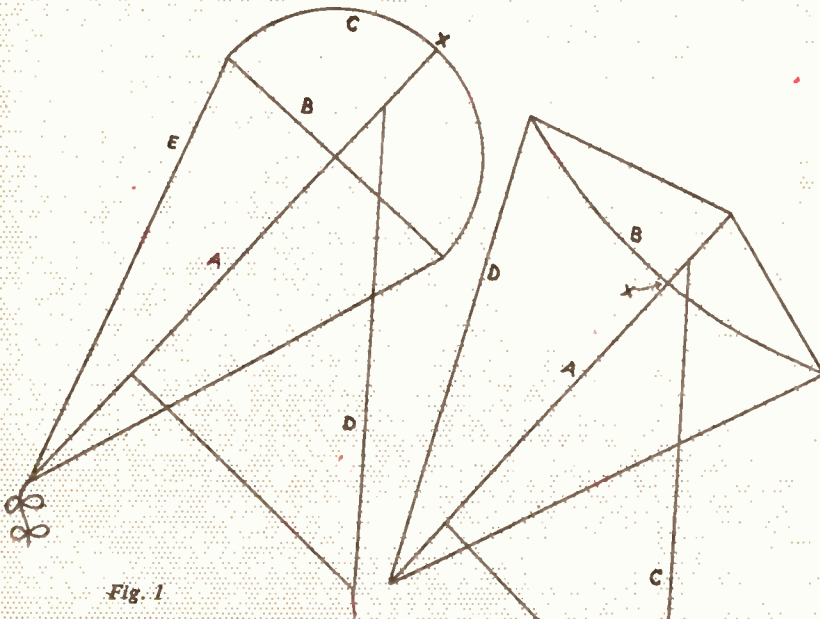

Fig. 1
The best known, easy-to-make kite, is the pegtop pattern (Fig. 1). The backbone (A) is a 2ft. length of $\frac{1}{4}$ in. square stripwood. The bow (C) is formed from a 20in. piece of thin split cane or flexible wood. This is bent to a semi-circle, and held in that position by the bowstring (B). The centre of the bow is lashed to the top of the backbone with thin